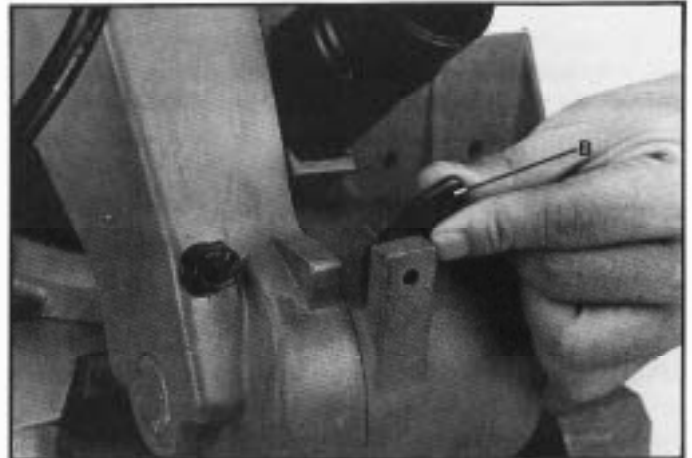

Fig. 3
2. To move the cuttinghead to the up position, move locking lever (B) Fig. 3, to the right, as shown.